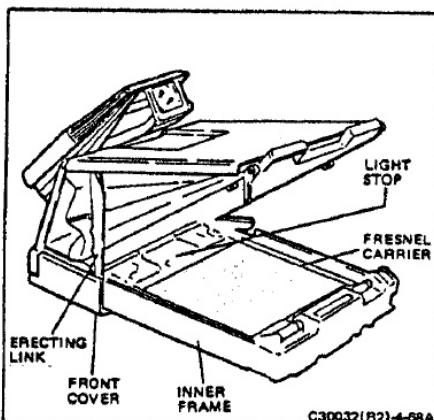

FIGURE 4-68A CAMERA PARTIALLY DISASSEMBLED FOR ACCESS TO INNER COMPONENTS
- (g) Lock the assembly in the raised position as shown in Figure 4-68A "A" by setting the erecting link into the slot between the front cover and the inner frame.